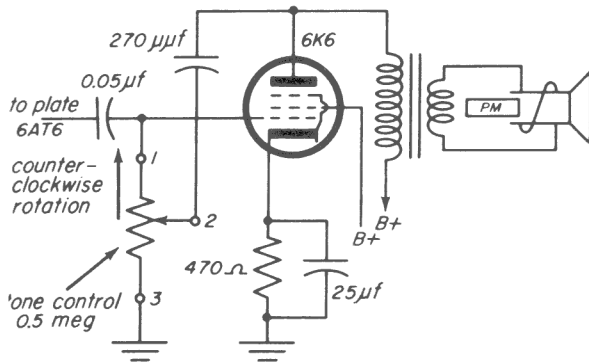

Fig. 35-9
Information. A schematic of the circuit is shown in Fig. 35-9. The 270- μ f capacitor feeds back only treble signal voltage. Most treble is fed back with the moving arm of the
Step 3. Solder the remaining lead of the 270-μmf capacitor to the plate, pin 3, of the 6K6. The circuit is now wired as in Fig. 35-9.